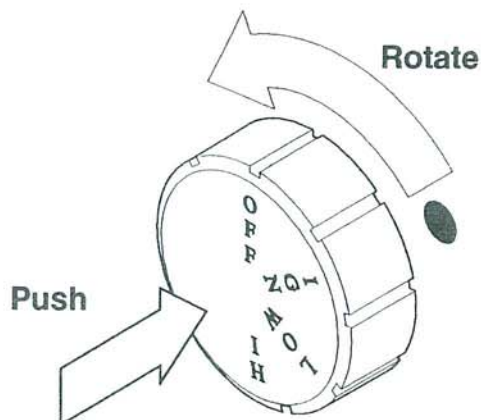

FIGURE 14. Control Knob
6. From off position, push in gas control knob counterclockwise  to the IGN position (FIGURE 14) Push and hold control knob for 5 seconds.